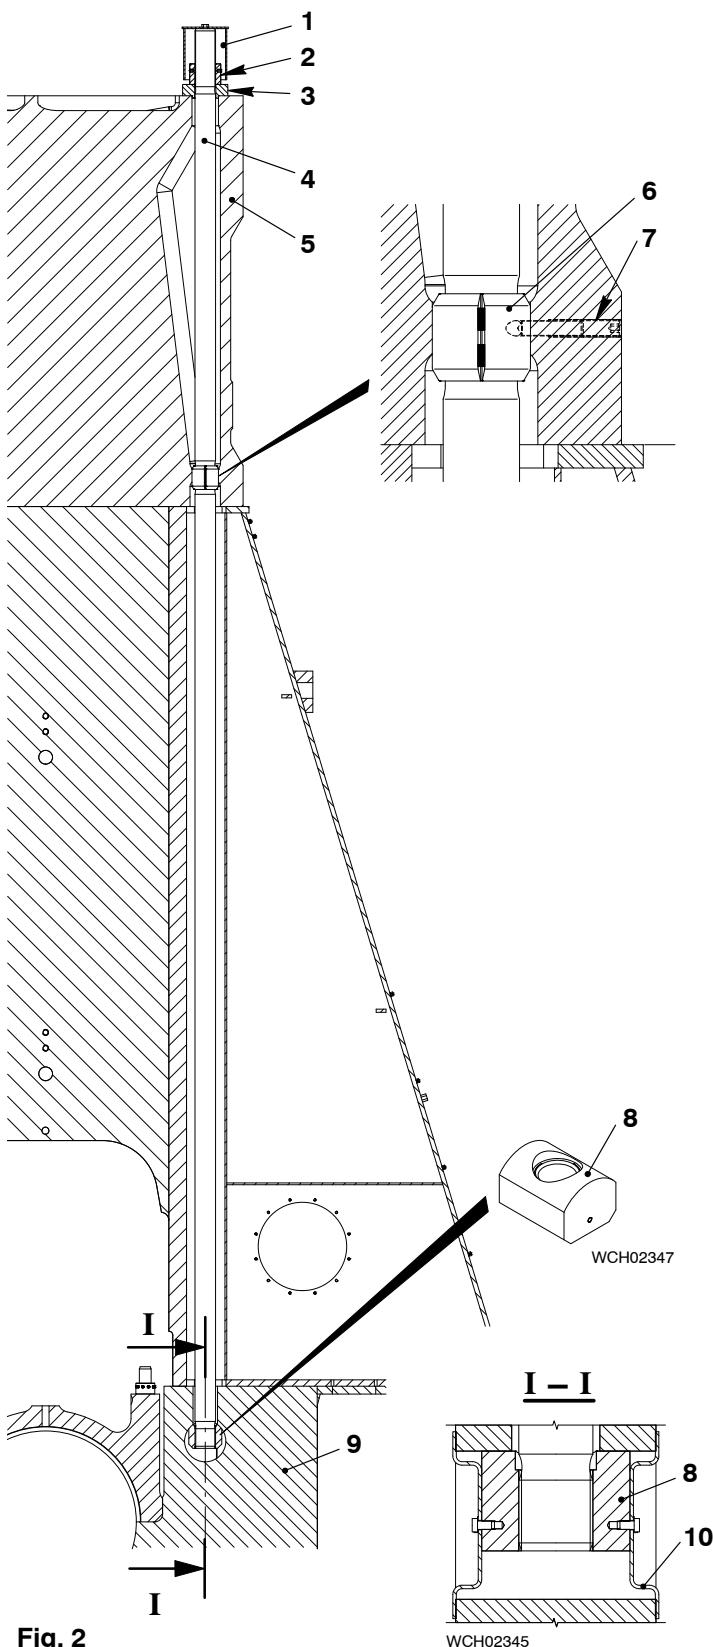
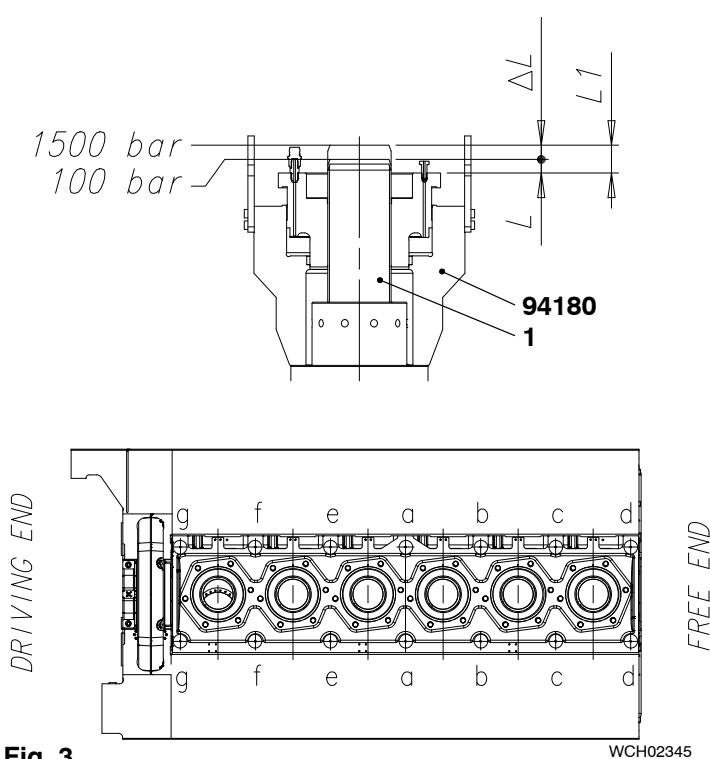

Fig. 2
Fig. 3
- 2) Attach the two pre-tensioning jacks (94180, Fig.3) on the two tie rods (2, Fig.1), which are opposite to each other.
- 3) Apply tension to the tie rods (2) with 1500 bar, refer to 9403-4.
- 4) Tighten the round nut (3) if possible.
- 5) If the tie rod nut (3) is blocked or seized, put a brass or copper bar into a hole in the tie rod nut through the slotted aperture of the jack and first loosen, then tighten the nut with several heavy hammer blows. Make sure that the edge of the hole is not seriously deformed.
- 6) After the check of the tensioning is completed, apply a layer of the non-acidic grease to the tie rod (2) threads to protect it against corrosion.
- 7) Install the protection cover (1).
- 1) Remove the protection cover (1, Fig.2) from the tie rods (4) and clean the surface of the intermediate ring (3).
- 2) Attach the two pre-tensioning jacks (94180, Fig.3) on the two tie rods (4, Fig.2), opposite to each other.
- 1) Remove the set screws (7, Fig.2).
- 2) Unscrew the tie rod (4) with the two round nuts (2) countered against each other.
- 3) Use an applicable eye bolt and attach it to the head of the tie rod (4).
- 1) Remove the holders (10, Fig.2) on each side.
- 2) Make sure the nut (8) is correctly attached.
- 3) Add MOLYKOTE G paste to the lower thread of the tie rod (4).
- 4) Attach an applicable eye bolt to the head of the tie rod (4).
- 6) Install the bush (6) to the tie rod.
- 7) Lower the tie rod (4) and screw it into the nut (8) until their bottom ends are flushed.
- 8) Clean the upper surfaces of the cylinder block (9).
- 9) Install the intermediate ring (3).
- 10) Add MOLYKOTE G paste to the upper thread of the tie rod (4) and to the upper surface of intermediate ring (3).
- 11) Screw the round nut (2) on the tie rod (4).
- 1) Put the two pre-tensioning jacks (94180, Fig.3) on the to two tie rods (1) which are opposite to each other.
- 2) Record the elongation of the tie rods (1) from 100 bar to nominal 1500 bar.
- The elongation of the correct tensioned tie rod (1) must be:
- 5) Apply a layer of the non-acidic grease to the rod threads to protect the tie rod (1, Fig.3) against corrosion.